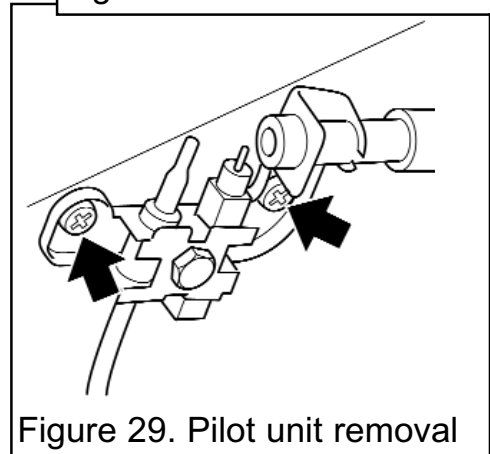

Figure 29. Pilot unit removal
6. Remove the two screws securing the pilot unit (See figure 29).